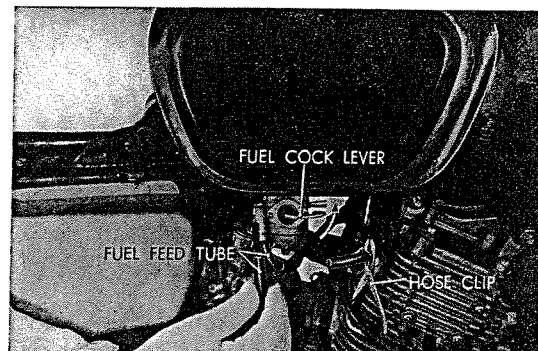

Fig. 4.30 Remove the tank by using the hose clip
5. Set the hose clip at one end of the reserve line and extract it backward with care. (Refer to Fig. 4.30)